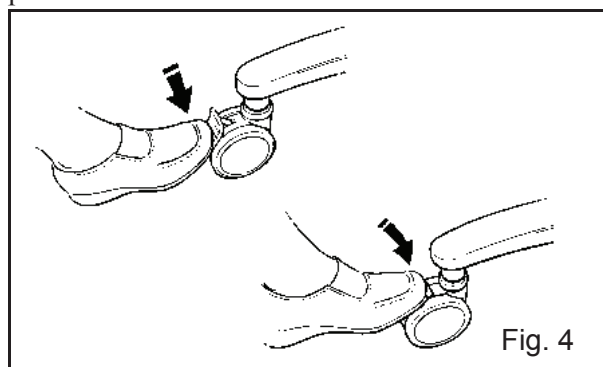

Fig. 4
**Chassis Castor Brakes:** The chassis rear castors have brakes which can be foot operated if required (see Fig. 4), to keep the *Sara 3000* in position.